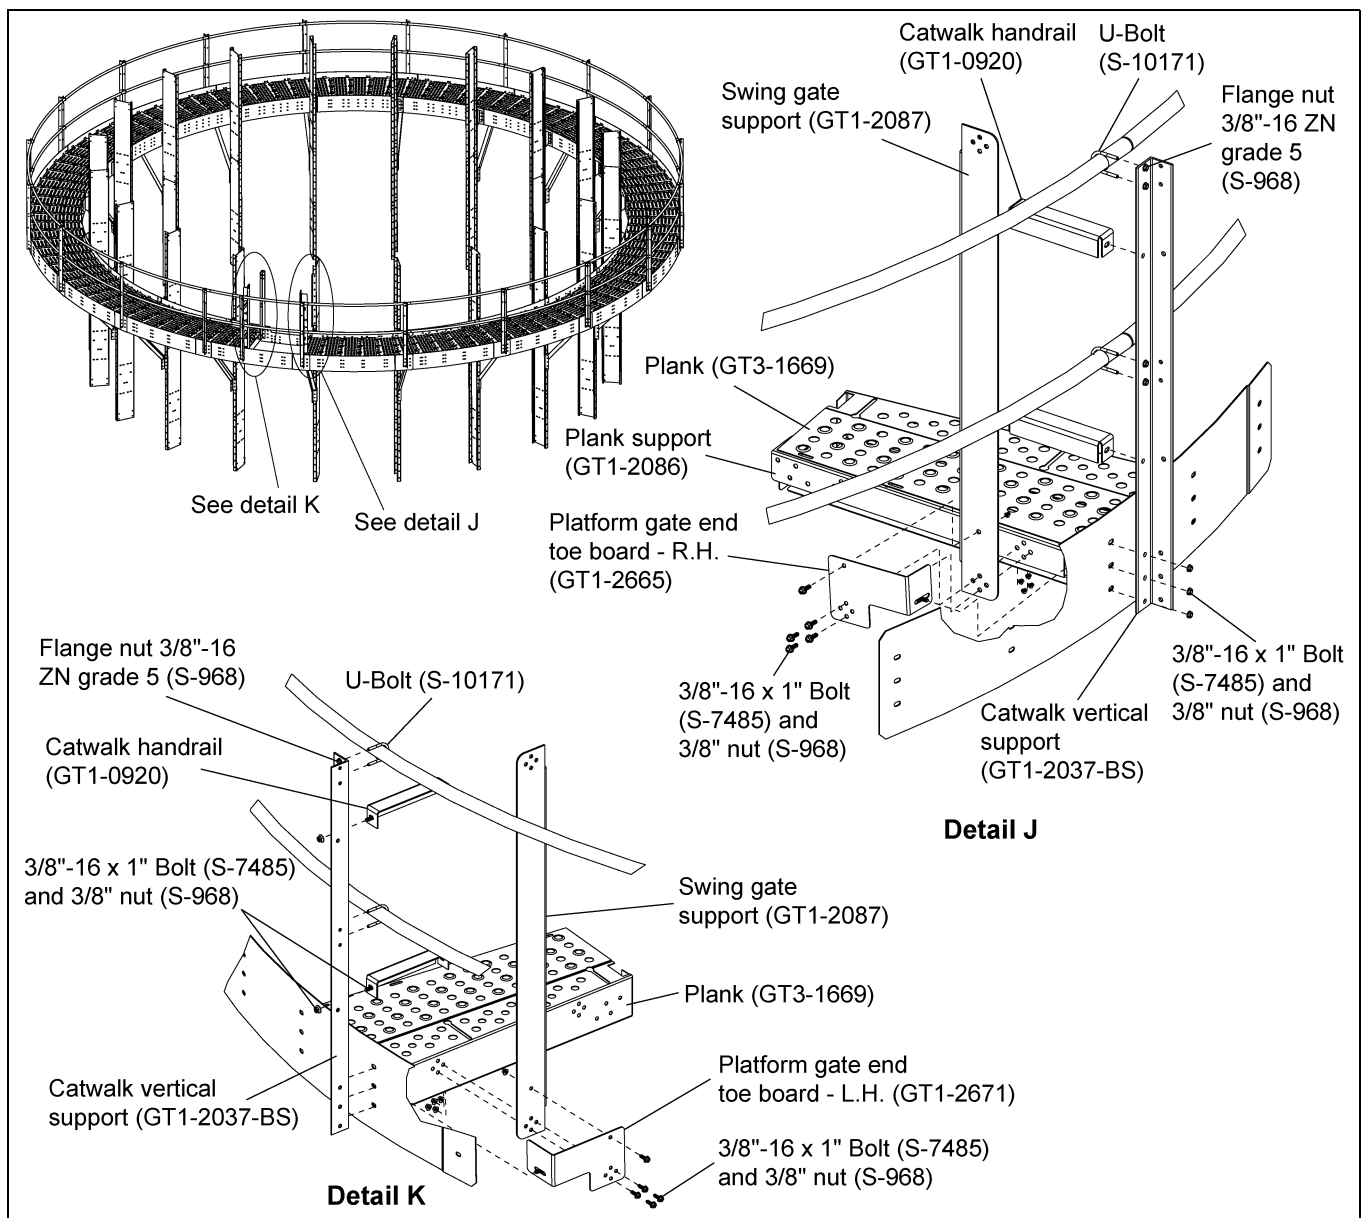

Figure 4X
1. Install the swing gate support (GT1-2087) and the gate end toe board (GT1-2665) to the plank support (GT1-2086) using 3/8"-16 x 1" JS grade 8 or grade 8.2 bolts (S-7485) and 3/8"-16 ZN grade 5 nuts (S-968). (See detail J in Figure 4X.)
2. Install two (2) catwalk handrails (GT1-0920) between the swing gate support (GT1-2087) and the catwalk vertical support (GT1-2037-BS) using 3/8"-16 x 1" JS grade 8 or grade 8.2 bolts (S-7485) and 3/8"-16 ZN grade 5 nuts (S-968). (See detail J in Figure 4X.)
3. On the other side, install the swing gate support (GT1-2087) and the gate end toe board (GT1-2671) to the plank (GT3-1669) using 3/8"-16 x 1" JS grade 8 or grade 8.2 bolts (S-7485) and 3/8"-16 ZN grade 5 nuts (S-968). (See detail K in Figure 4X.)
4. Install two (2) catwalk handrails (GT1-0920) between the swing gate support (GT1-2087) and the catwalk vertical support (GT1-2037-BS) using 3/8"-16 x 1" JS grade 8 or grade 8.2 bolts (S-7485) and 3/8"-16 ZN grade 5 nuts (S-968). (See detail K in Figure 4X.)